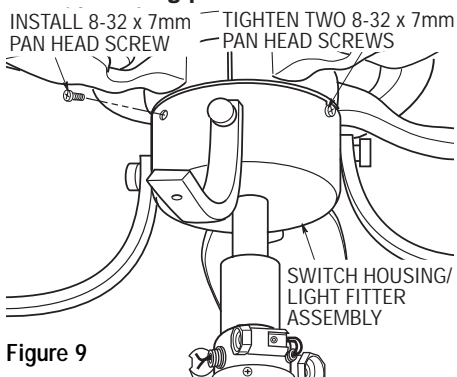

Figure 9
- 13. Position the two slots in the switch housing/light fitter assembly over the two 8-32 x 7mm screws (Figure 9). Turn the switch housing assembly clockwise and tighten the two screws. Install another 8-32 x 7mm pan head screw into the remaining hole to secure the switch housing assembly.